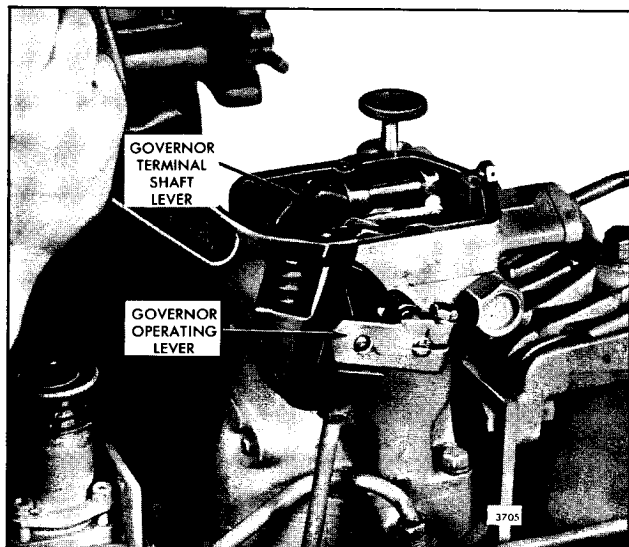

Fig. 6 - Final Adjustment on Vertical Link
18. With the load limit screw backed all the way out, retain the governor operating lever in the full fuel position. The governor terminal lever should touch the boss in the governor housing (Fig. 6). Adjust the vertical link so that all the injector racks are in the full fuel position, and then tighten the rod end lock nuts securely.